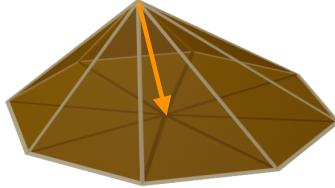

Figure 3.1: Curvature approximation by discrete Laplacian
- (b) The difference between a vertex  $x$  and the average position of its 1-ring neighborhood is a quantity that provides interesting geometric insight of the shape (see Figure 3.1). It can be shown that,